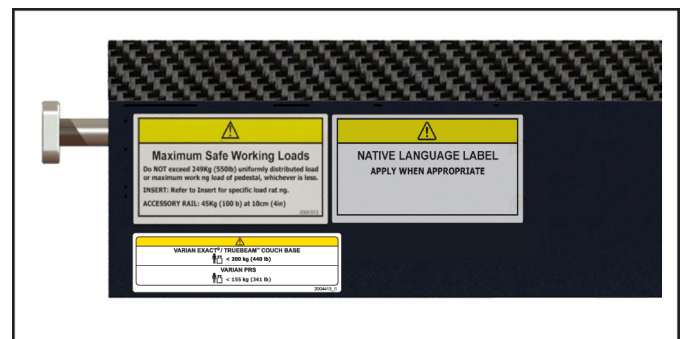

Fig. 31
9. Place native language, 2" x 4" CAUTION label, to the right of 2" x 4" current CAUTION label where appropriate. (Fig. 31).